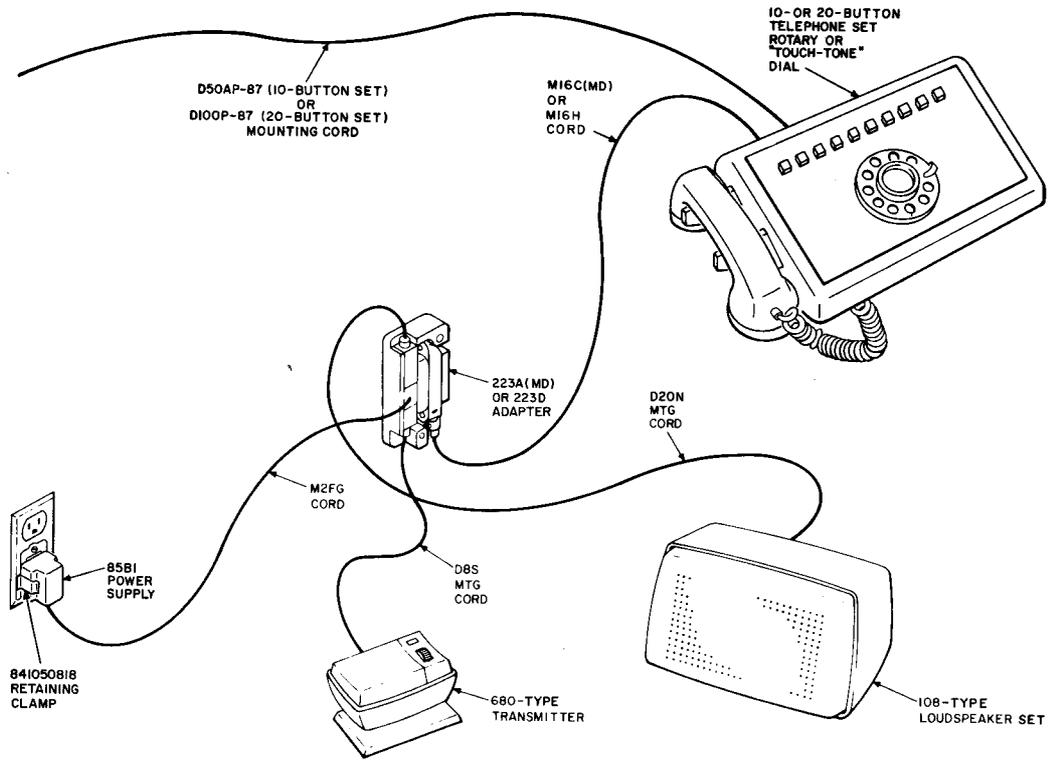

Fig. 1—4A Speakerphone System Arrangement, 10- or 20-Button Telephone Set
**2.05** Power is supplied by connecting an 85B1 power unit using M2FG cord as shown in Fig. 1 and 2.